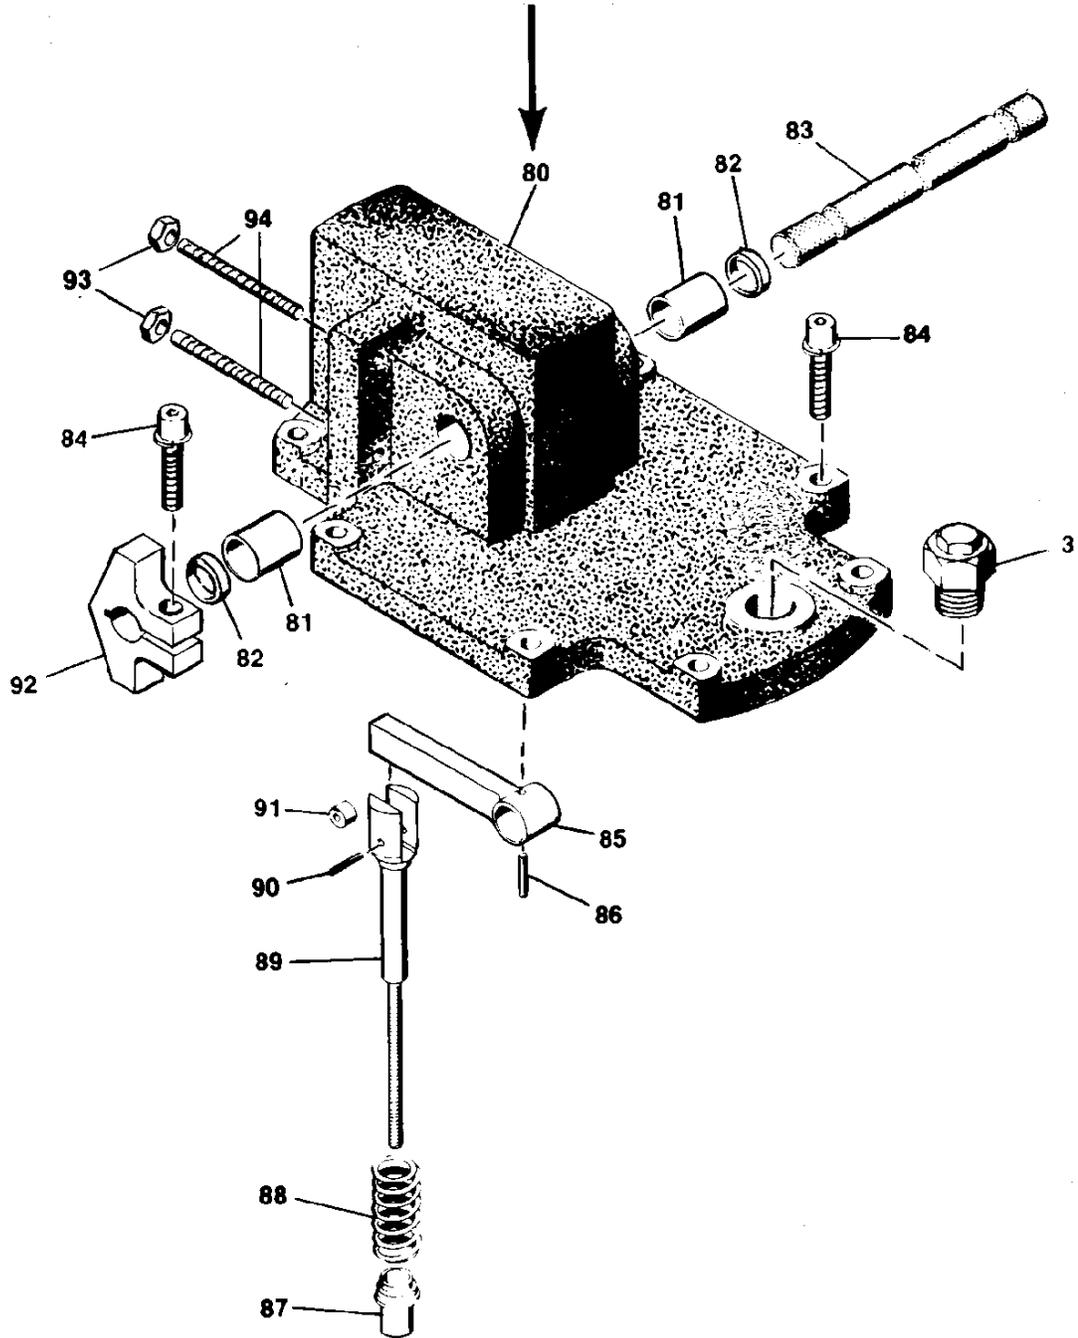

Figure 6-2. TG-10 Parts-Cover Assembly (Lever Speed Setting) for Use with Cast-Iron Case TG-10
**Replacement Parts List For Figure 6-2**